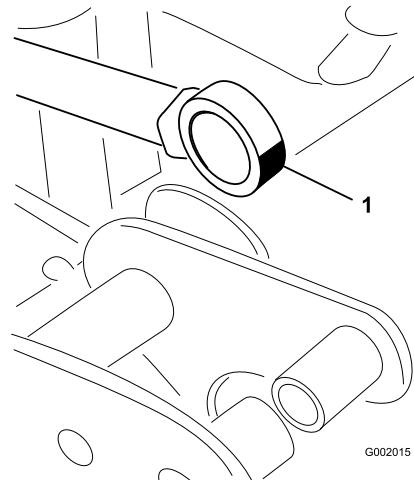

Figure 70
5. Swivel the rod-end bearing and apply grease into the bearing (Figure 70).